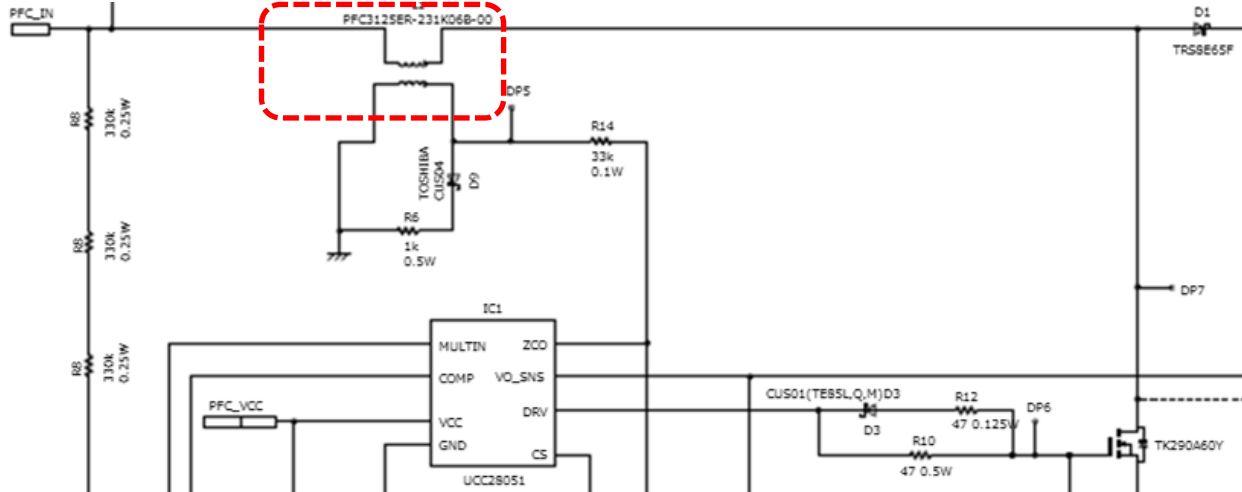

Fig. 2.7 Inductor Peripheral Circuit
Fig. 2.7 shows the inductor peripheral circuit. Calculate the inductance (L) using the following equation. Ripple current of the inductor (ΔI) is twice the AC line peak input current (ACin_peak).